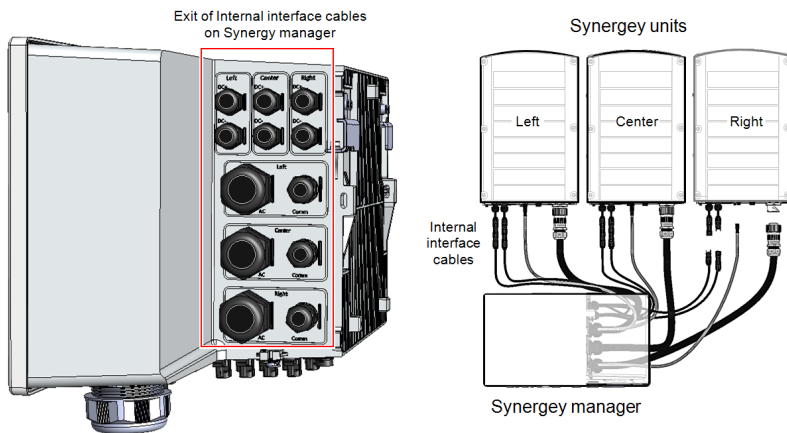

Figure 9: Inverter - interconnection cables
*Figure 9* shows the interconnecting cables of the inverter.